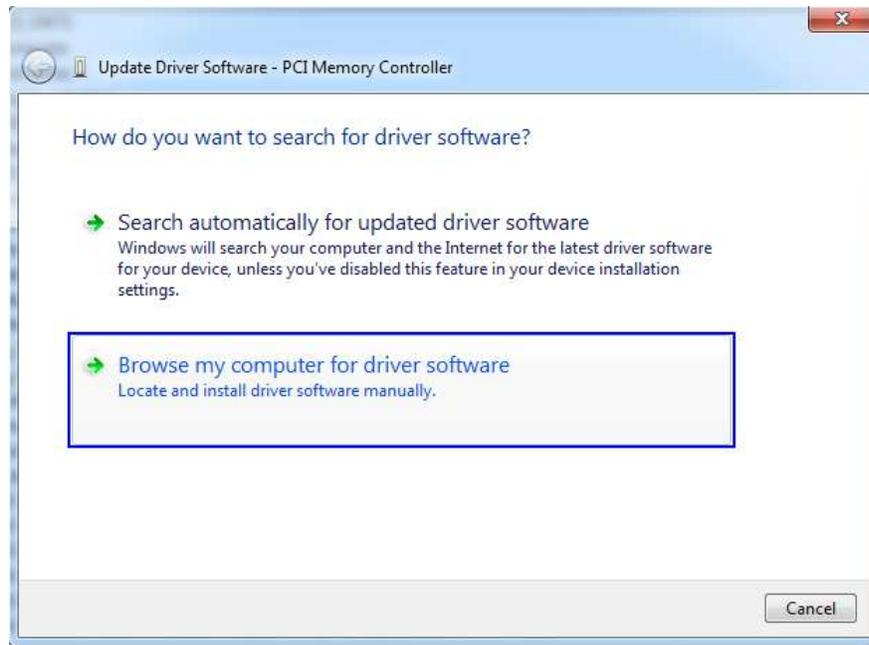

Figure 2.3. Driver Upgrade Dialog (1)
- From the pop-up dialog, select “Browse my computer for driver software” (Figure 2.3).